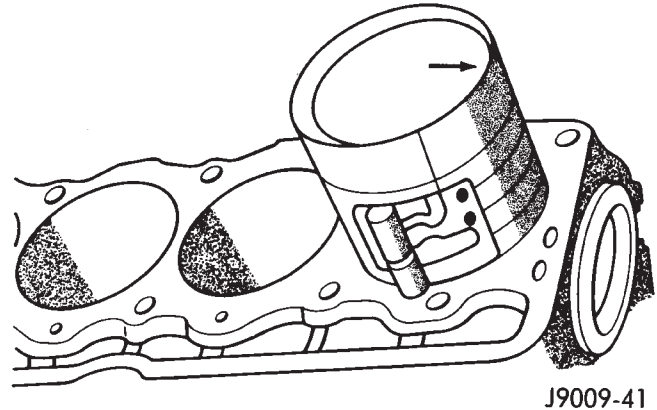

Fig. 19 Rod and Piston Assembly Installation
(3) Use a piston ring compressor to install the connecting rod and piston assemblies through the top of the cylinder bores (Fig. 19).
(4) Ensure the arrow on the piston top points to the front of the engine (Fig. 19).